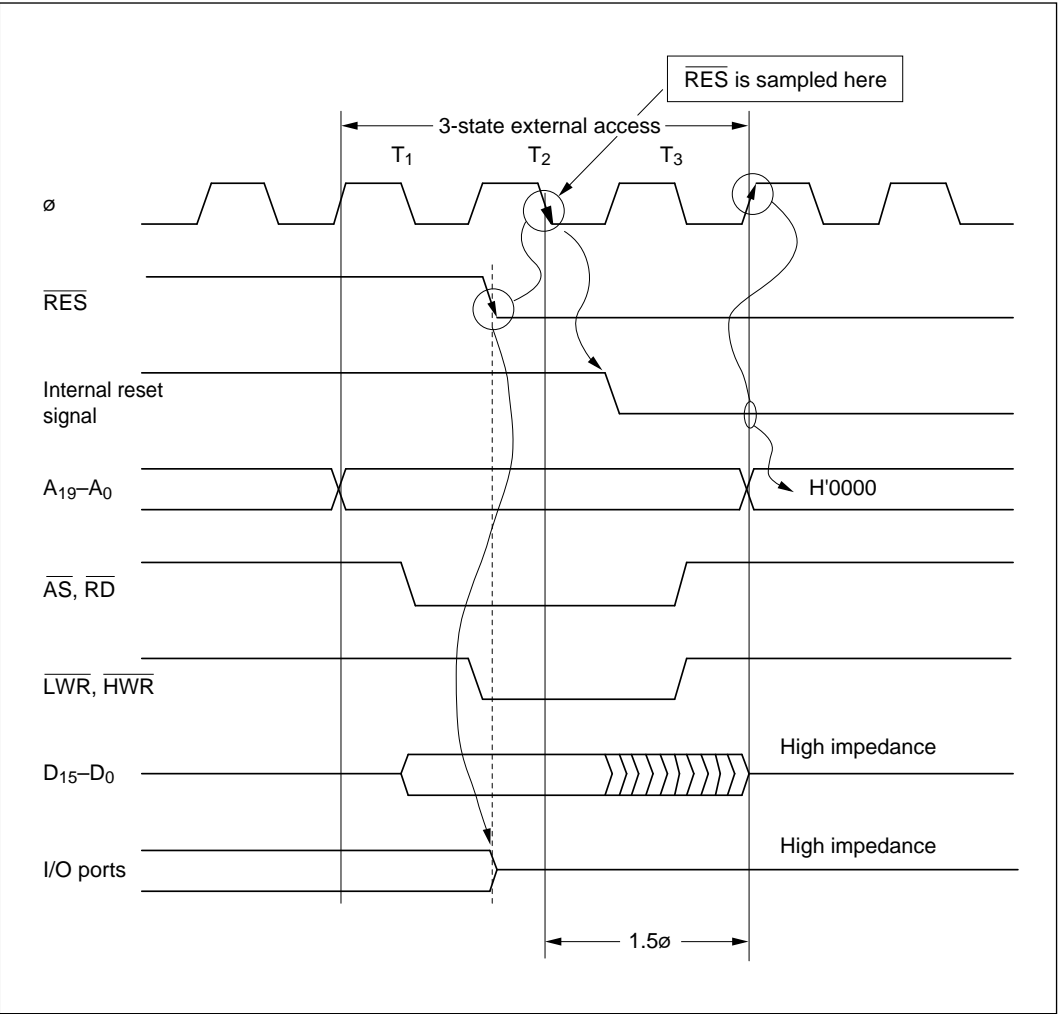

Figure G-3 Reset during Three-State Access (modes 3 and 5)
(3) Modes 3 and 5: Figure G-3 is a timing diagram for the case in which $\overline{\text{RES}}$ goes low during three-state access in mode 3 or 5. As soon as $\overline{\text{RES}}$ goes low, all ports are initialized to the input state. $\overline{\text{AS}}$, $\overline{\text{RD}}$, $\overline{\text{LWR}}$, and $\overline{\text{HWR}}$ go high, and D_{15} to D_0 go to the high-impedance state. A_{19} to A_0 are initialized to the low state 1.5 system clock cycles (1.5ϕ) after the low level of $\overline{\text{RES}}$ is sampled.